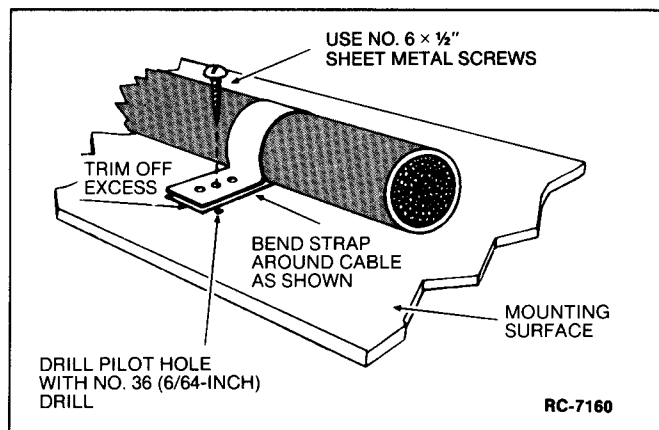

Figure 4 - Installing Cable Straps
3. Use the 3-inch cable straps and No. 6 self-tapping screws provided in the Mounting Hardware Kit to secure the cables neatly in place (See Figure 4).